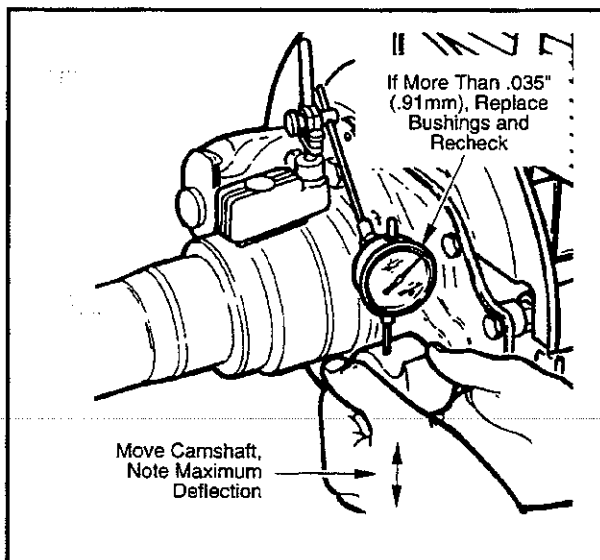

Figure 2—Dial Indicator Mounting
1. Mount a suitable dial indicator with plunger. (See Figure 2—Dial Indicator Mounting.)